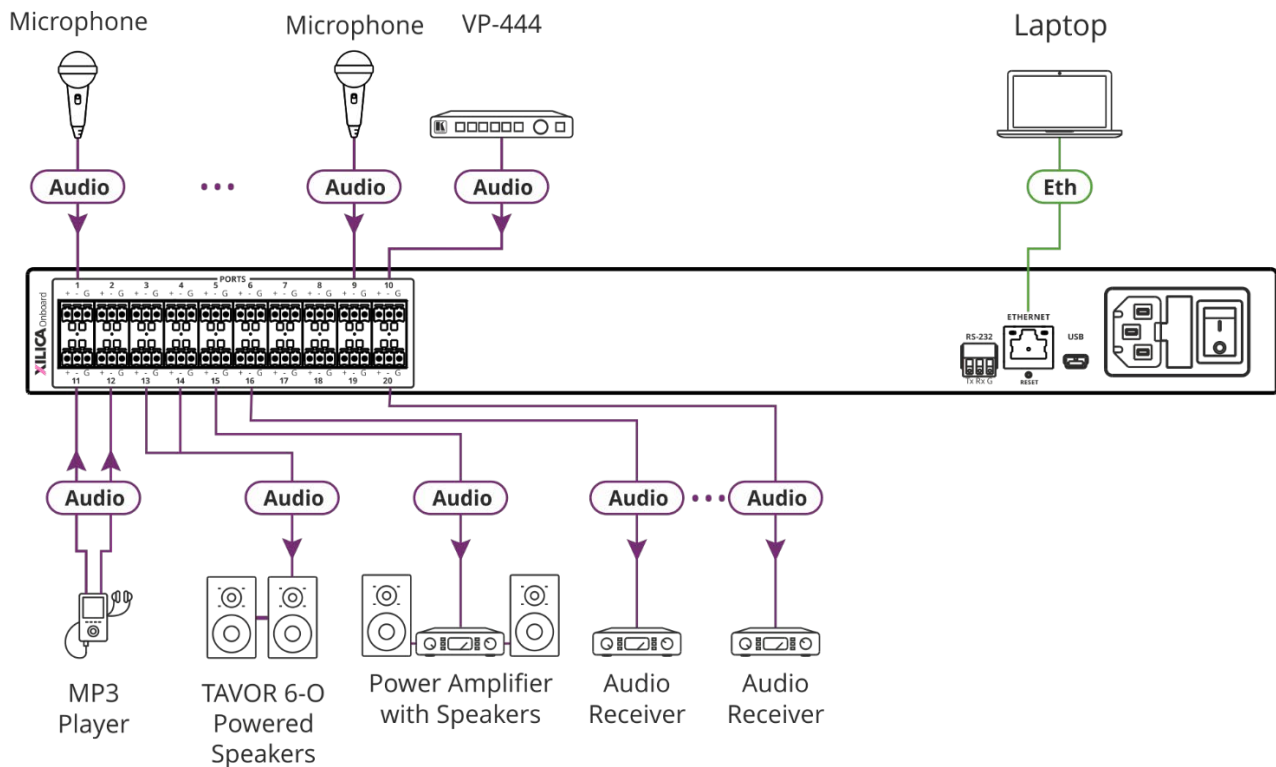

Figure 7: Connecting to the **AFM-20DSP-LE** Rear Panel
To connect **AFM-20DSP-LE** as illustrated in the example in Figure 7:
- Connect the PORT balanced mono 3-pin terminal block connectors (7) (port I/O is set to 12x8 in this example) to the following audio acceptors:
- Connect the RS-232 3-pin terminal block connector (15) to the RS-232 port on a controller (for example, a laptop) to control the **AFM-20DSP-LE**.
- Connect the ETHERNET RJ-45 port (16) to the Ethernet to control the **AFM-20DSP-LE** and use for firmware upgrade.
- Connect the mini USB connector (17) to a control device (for example, a laptop) to control the **AFM-20DSP-LE**.
- Connect the power cord to the **AFM-20DSP-LE** mains socket (19) and to the mains electricity (not shown in Figure 7).